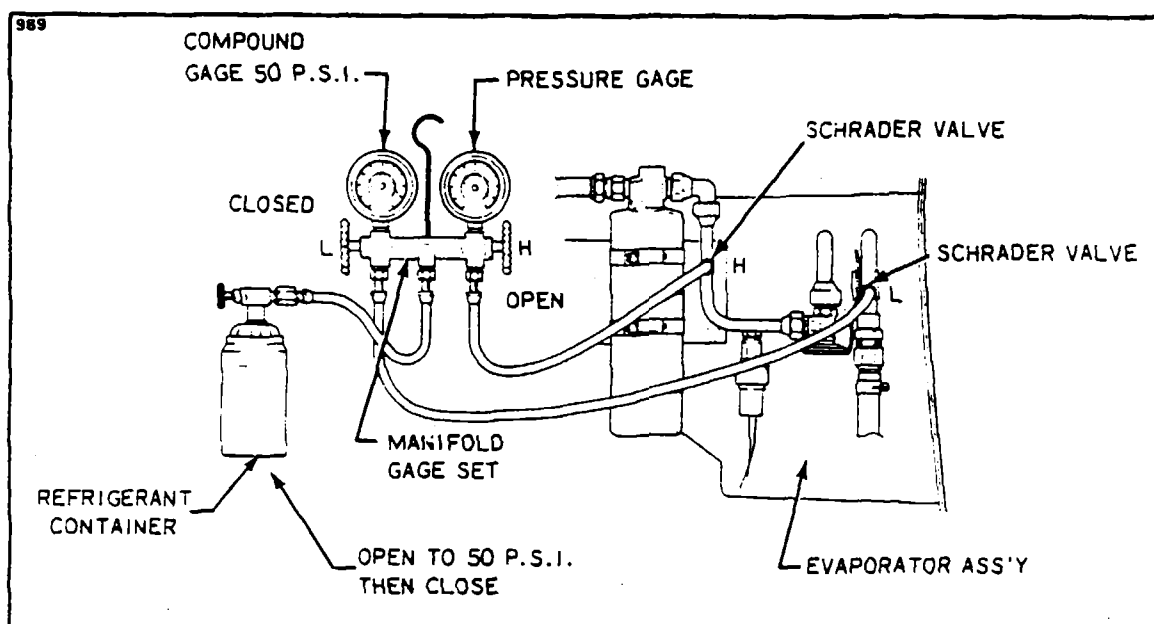

Figure 14-5. Leak Test Hookup
- a. Connect the manifold gauge set into the system and determine if there is any refrigerant in the system. A minimum of 50 psi refrigerant pressure in the system is needed for leak detection. (Refer to Figure 14-5.)